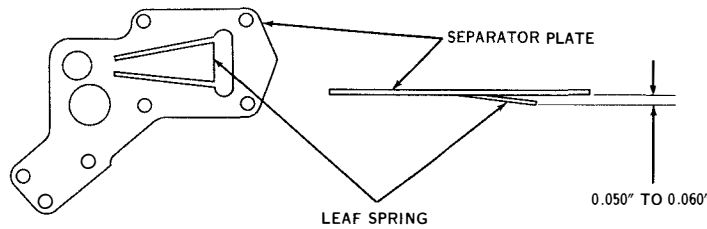

Figure 7-24. Separator Plate Leaf Spring
(2) SELECTOR SEPARATOR PLATES. (See figure 7-24.)—The tip of the leaf spring should extend 0.050- to 0.060-inch below the separator plate. To adjust, bend the leaf springs at their narrow portions.